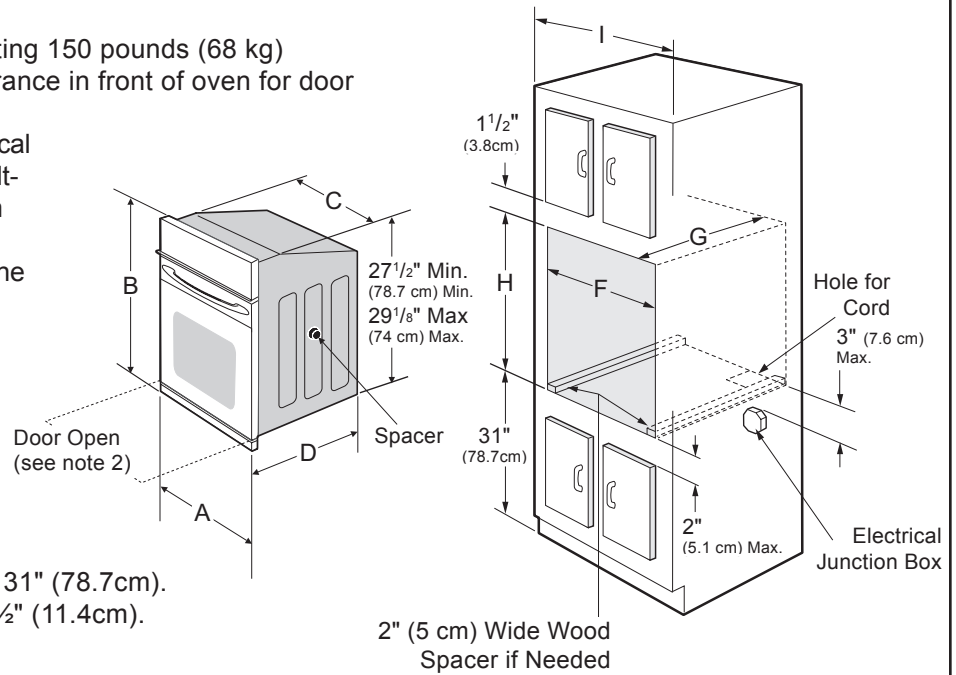

Figure 1
Refer to figure 1 for the dimensions applicable to your appliance, and the space necessary to receive the oven. The oven support surface may be solid plywood or similar material, however the surface must be level from side to side and from front to rear.
Oven height can be adjusted with 2" (5cm) wide wood shims when needed to fit into an existing cabinet cutout opening, when cutout height exceeds 275/8" (70.2 cm) (see Figure 1). Place shims of appropriate height beneath the oven side rails.
2. These appliances should be connected to the fused disconnect (or circuit breaker) box through flexible armored or nonmetallic sheathed cable. The flexible armored cable extending from the appliance should be connected directly to the junction box. The junction box should be located as shown in Figure 1 and with as much slack as possible remaining in the cable between the box and the appliance, so it can be moved if servicing is ever necessary.